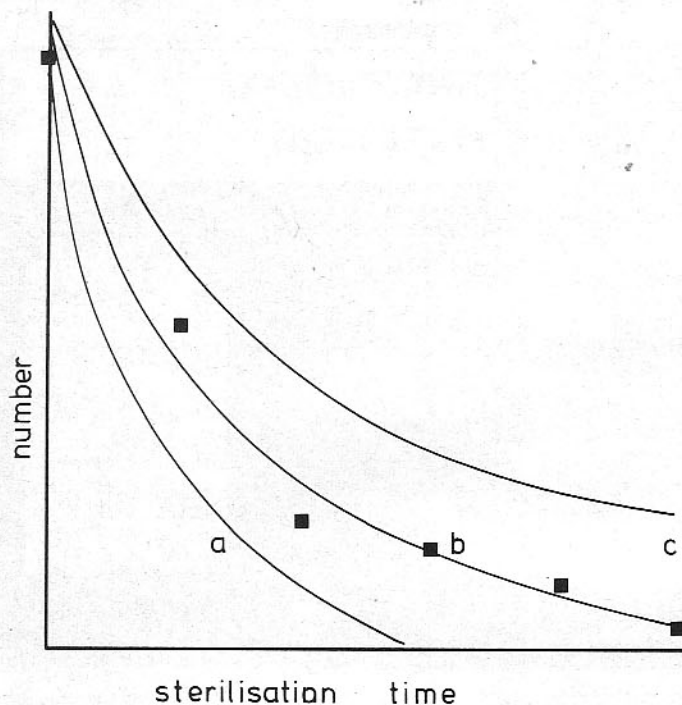

FIG. 1
A plot of some representative data, obtained by counting bacteria at different times, is shown in Fig. 1. Although the scientist knows that the shape of the curve will always be the same he also knows that N_0 and k, both constants, can vary according to the state of the food before processing, the sterilisation temperature, moisture content and so on. The constants N_0 and k are the *parameters* of the function for this particular experiment and the values of these parameters are the unknowns that the experimenter wishes to find.
If we are looking for the line that is the closest description of the data we clearly must have some criterion of goodness of fit. Fig. 1 shows three lines (a, b and c). Subjectively, it is easy to choose line b as the best fit to the data – but why?
advantage from the point of view of weighting of the data. Consider the bacterial death curve of Fig. 1. It is an easy step to plot the logarithm of number (N) against time to obtain a straight line. Application of linear regression such as in [1] can then give estimates of N_0 and k , but these estimates will not be statistically the best because an error at the smaller values of N will be magnified by the distribution of the axis produced by the transformation.